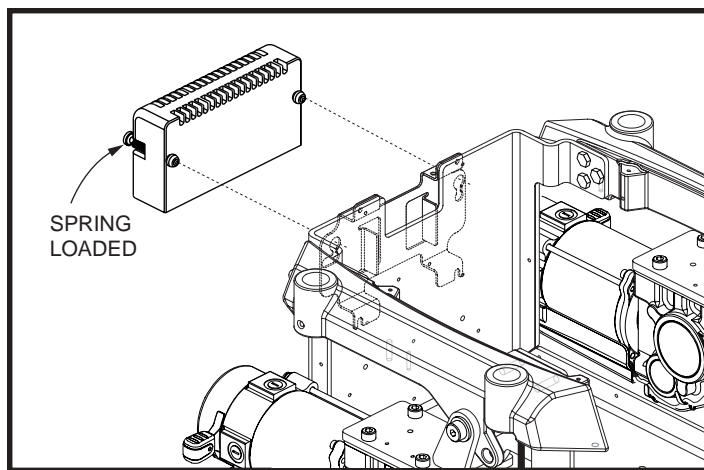

Figure 37. Power Module Removal
3. Disconnect the power module (2) from the module mounting bracket. **See figure 37.**